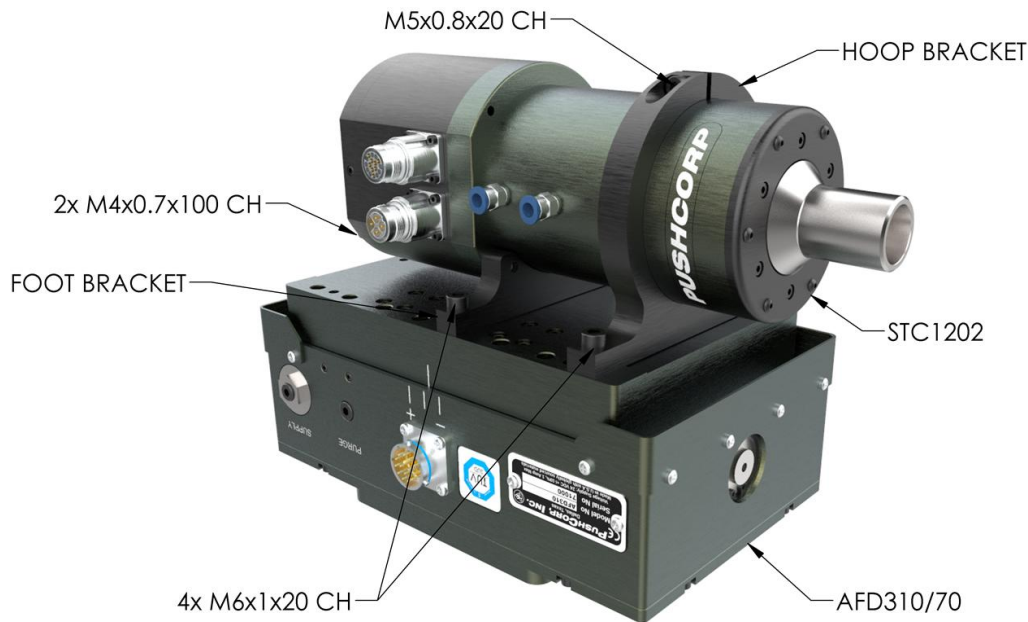

FIGURE 1: PARALLEL MOUNT - AFD310/70
The parallel-axis configuration with the AFD310/70 is shown in Figure 1, where the motor attaches to the AFD Carriage with a hoop bracket and foot bracket. The hoop bracket is positioned on the carriage and attached using the two (2) supplied M6x1x20mm socket head cap screws. The motor is then attached to the foot bracket, as shown, with two (2) M4x1x50mm socket head cap screws mounted at the front of the motor housing. The foot bracket is then mounted to the carriage via two (2) M6x1x20mm socket head cap screws. Finally, tighten the M5x.8x20 cap head screw at the top of the hoop bracket. The fasteners must be tightened to the torque specified in Section 4.0.